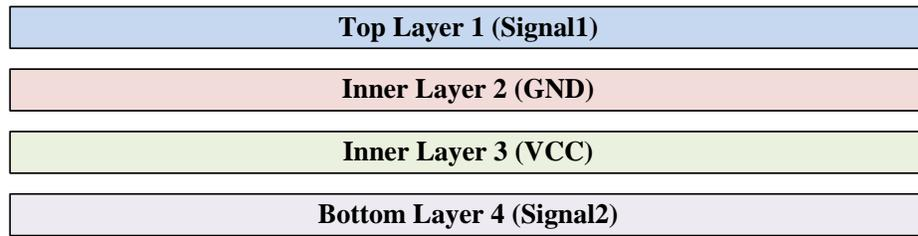

**图 23. Four-Layer Board Stack-Up**
9. Due to high frequencies associated with the USB, a printed circuit board with at least four layers is recommended; two signal layers separated by a ground and power layer as shown in 图 23.